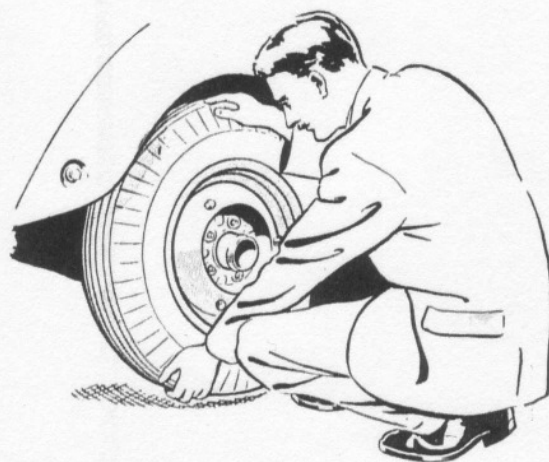

Fig. 28.—POSITIONING REAR WHEEL.
3. Using the one entered stud as a fulcrum, raise the wheel until the other studs enter their respective holes. (See Fig. 28.)